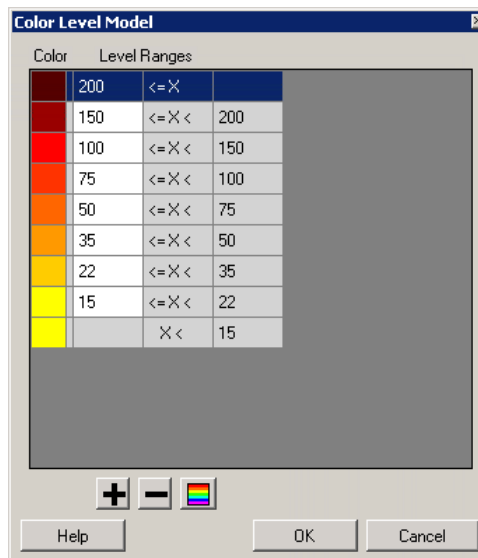

Figure 4-5 Color Level Model Dialog Box
- a. Click *Color Levels* to open the *Color Level Model* dialog box (Figure 4-5).